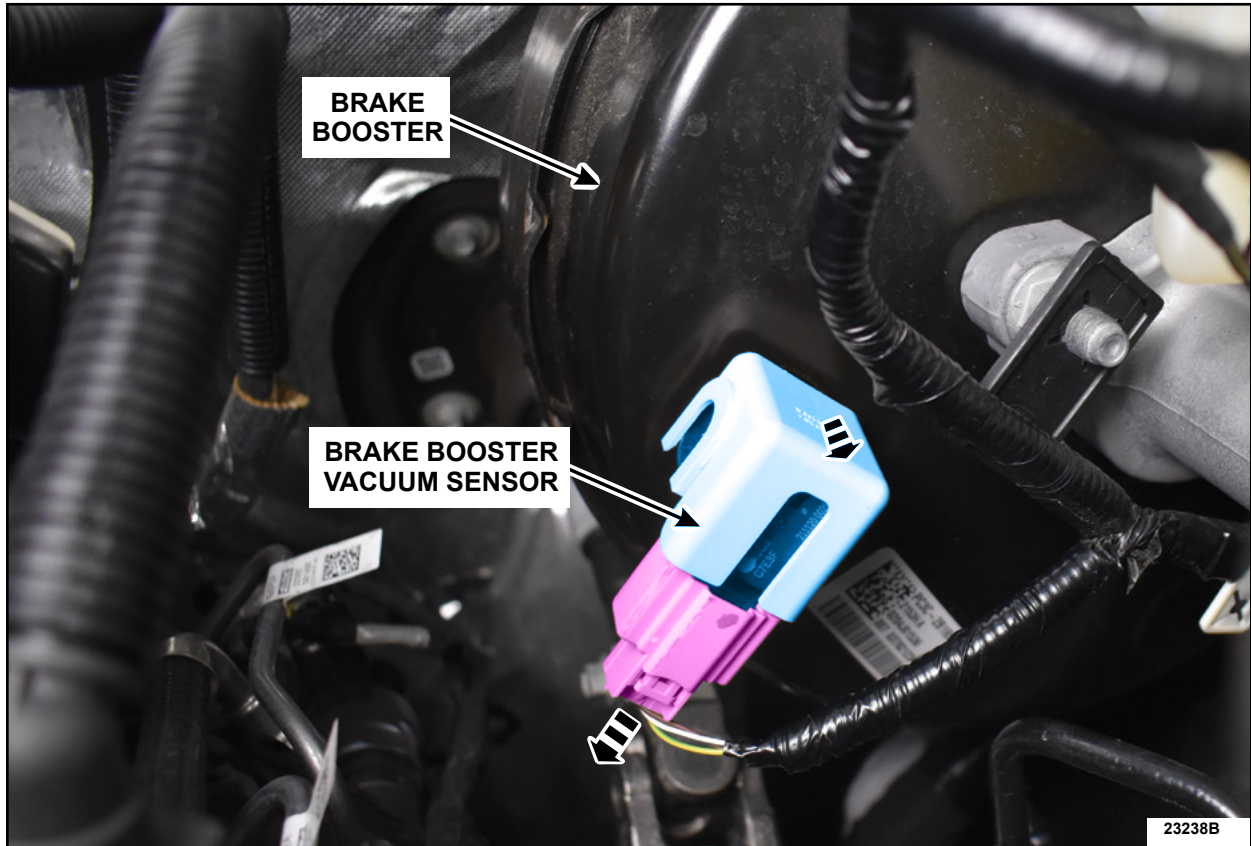

FIGURE 2
2. Remove and disconnect the brake booster vacuum sensor. See Figure 2.